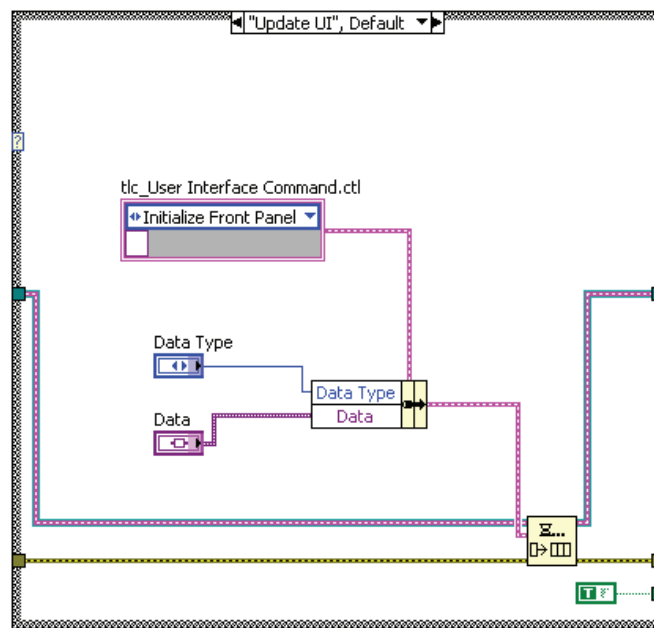

Figure 6-13. Display Module Update UI Case
4. Modify the Update UI case to call the Enqueue Element function to pass the command and data to the display loop in the top-level VI, as shown in Figure 6-13. Use the following items to complete this case: